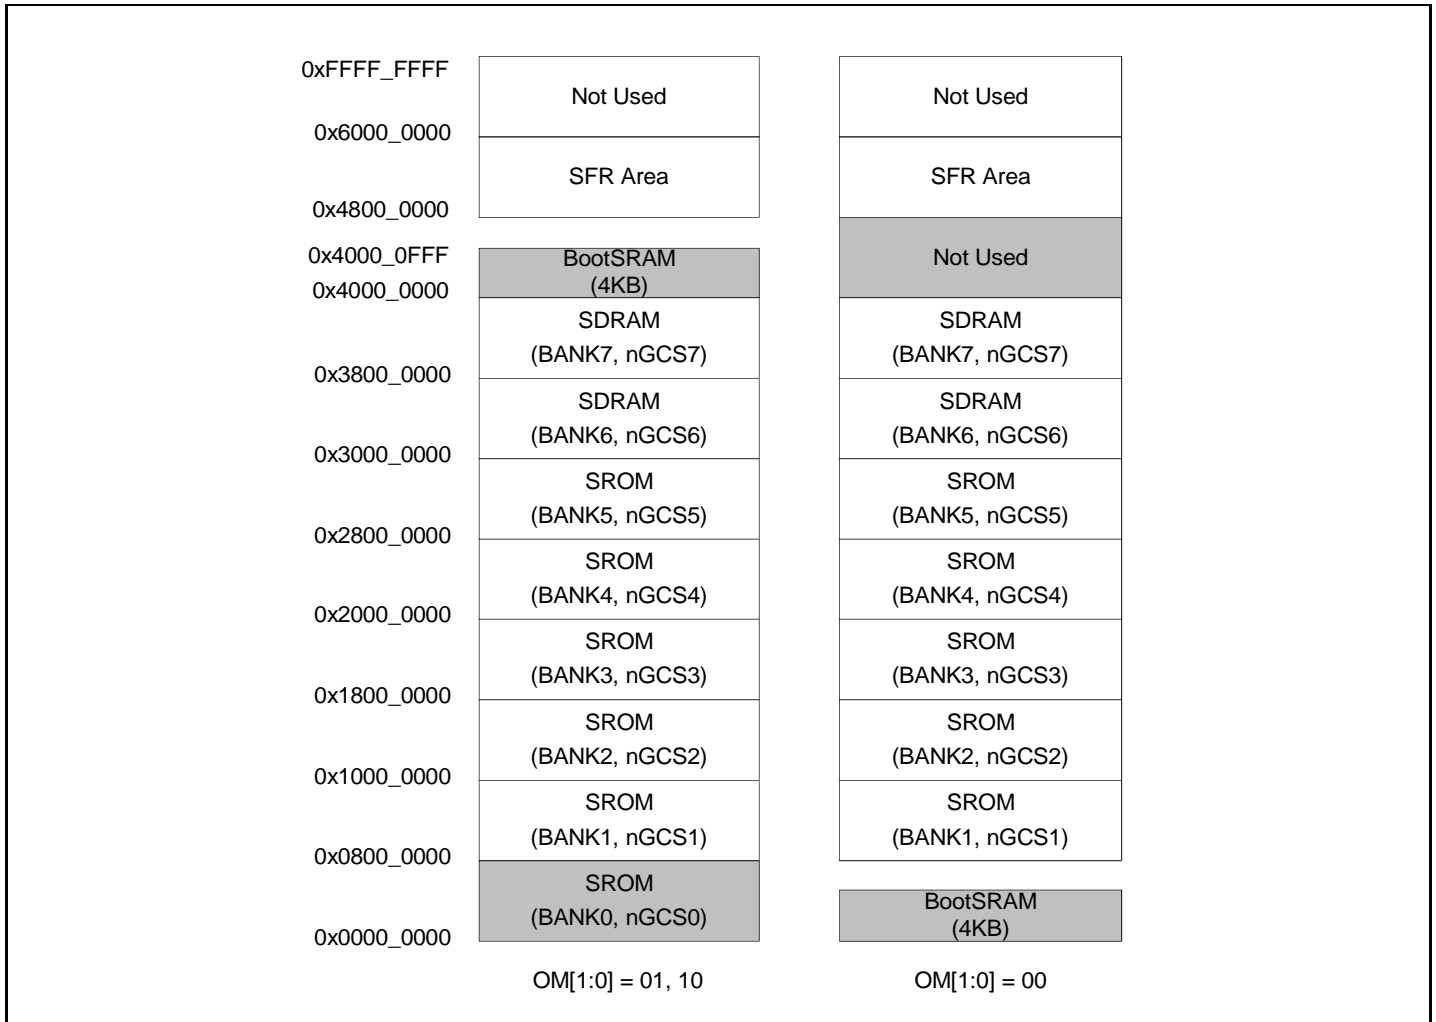

Figure 6-4. NAND Flash Memory Mapping
**Figure 6-4 nWE & nRE Timing (TWRPH0=0, TWRPH1=0)**